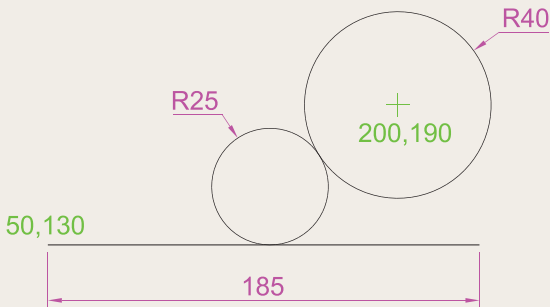

Fig. 2.32 Exercise 5
5. In an **acadiso.dwt** screen and using the **Circle** and **Line** tools, construct the line and the circle of radius 40 shown in Fig. 2.32. Then, using the **Ttr** prompt, add the circle of radius 25.